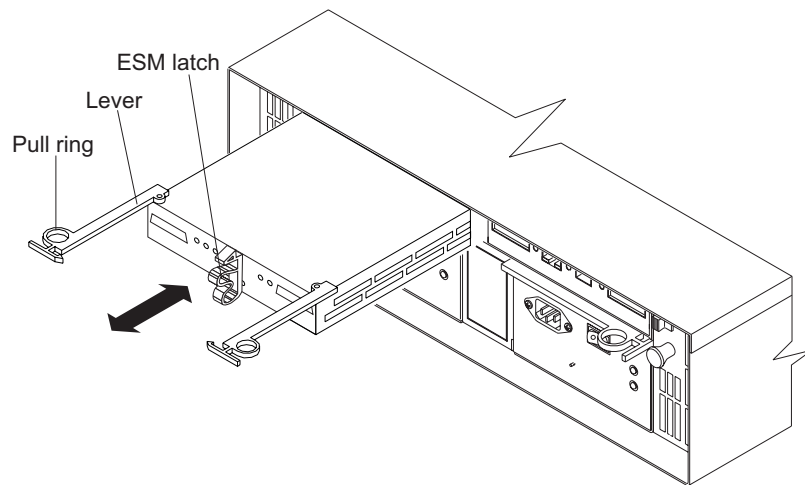

Figure 18. Removing an ESM
2. Remove the ESM from the bay, as shown in Figure 18.